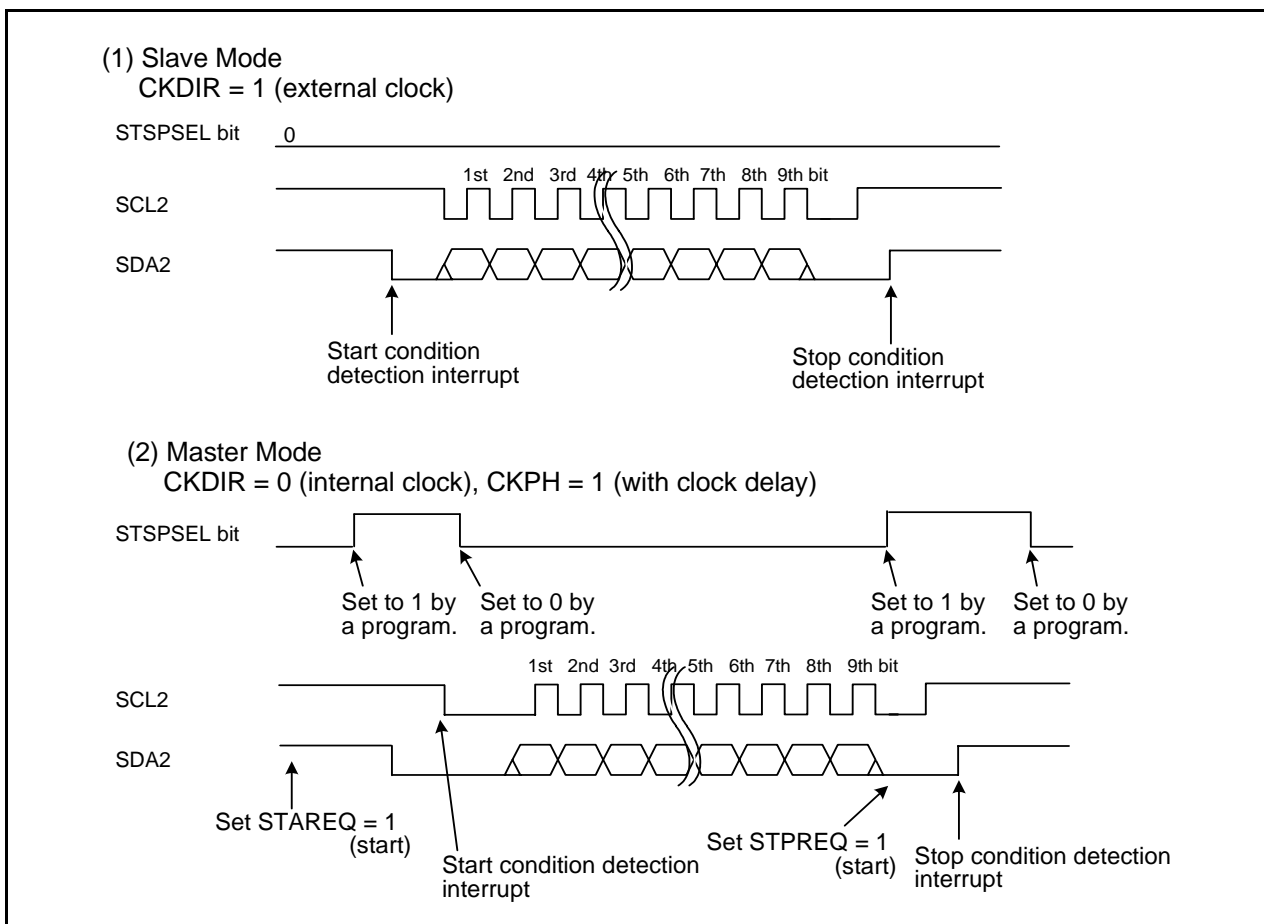

Figure 22.16 STSPSEL Bit Functions
- Refer to Figure 22.16 STSPSEL Bit Functions.
Table 22.13 lists the STSPSEL Bit Functions. Figure 22.16 shows the STSPSEL Bit Functions.